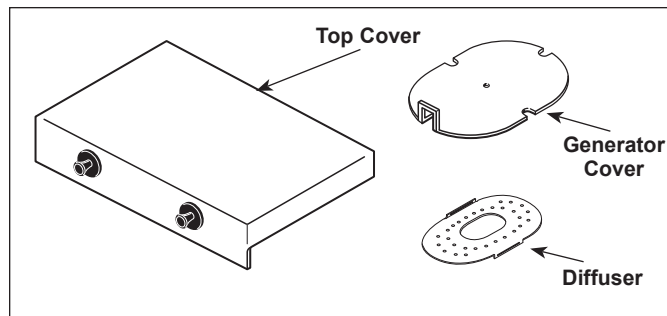

Figure 3. Steamer Components
2. Remove the Top Cover, Generator Cover, and Diffuser Plate (Figure 3).